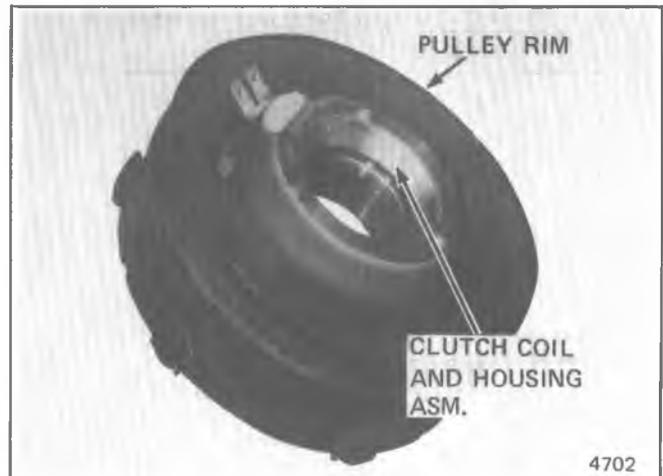

Fig. 1D-90 Assembling R-4 Clutch Coil, Pulley Rim and Rotor & Bearing
2. Place the assembly on the neck of the Front Head and seat into place using Rotor & Bearing Installer J 26271 (Fig. 1D-88).